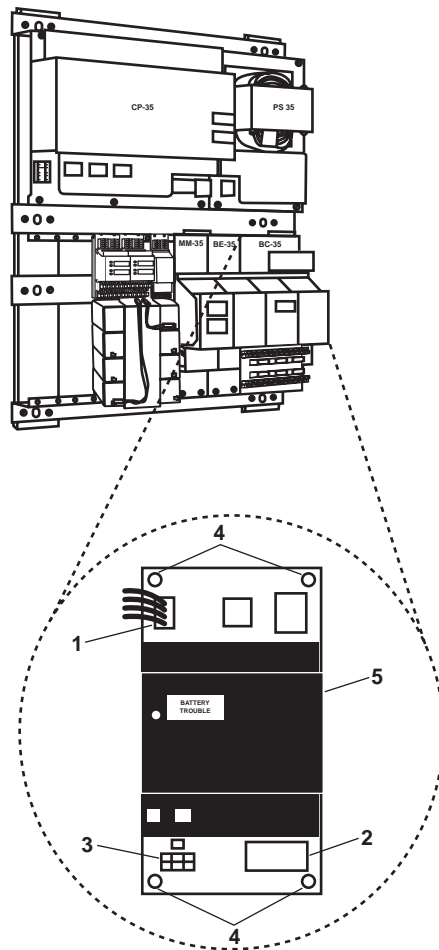

Figure 6. Battery Charger/Transfer Module BC-35 Replacement
2. Label and disconnect the electrical wiring from P1 (figure 6, item 1), P2 (figure 6, item 2), and TB1 (figure 6, item 3).
3. Remove the four screws (figure 6, item 4) that secure battery charger/transfer module BC-35 (figure 6, item 5), and remove it from the enclosure.
1. Position the battery charger/transfer module BC-35 (figure 6, item 5) in the enclosure and secure it with the four screws (figure 6, item 4).
2. Connect the electrical wiring to P1 (figure 6, item 1), P2 (figure 6, item 2), and TB1 (figure 6, item 3) using the labels from step 2 of Removal as a guide. Remove the labels.